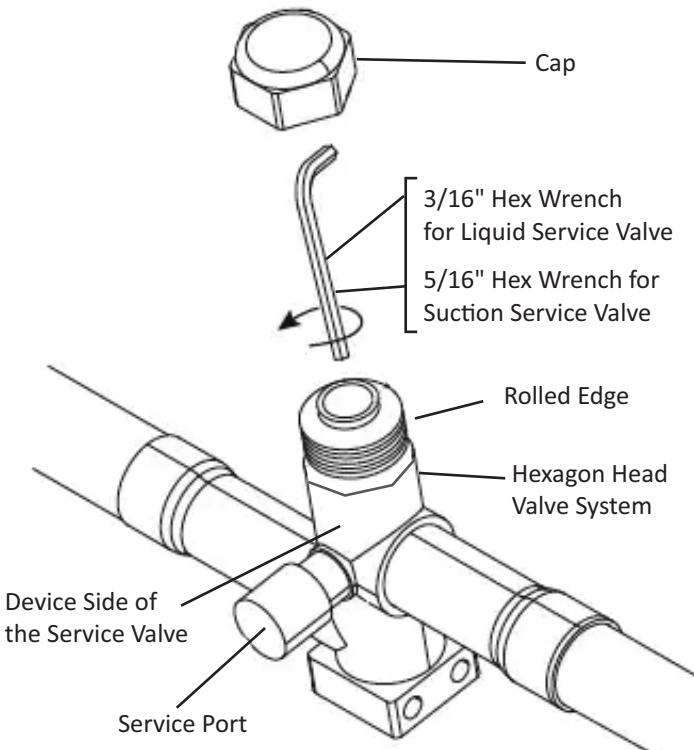

Figure 10.1 - Opening the Service Valves
- Remove the protective cap from the service valve. (Refer to Figure 10-1.)